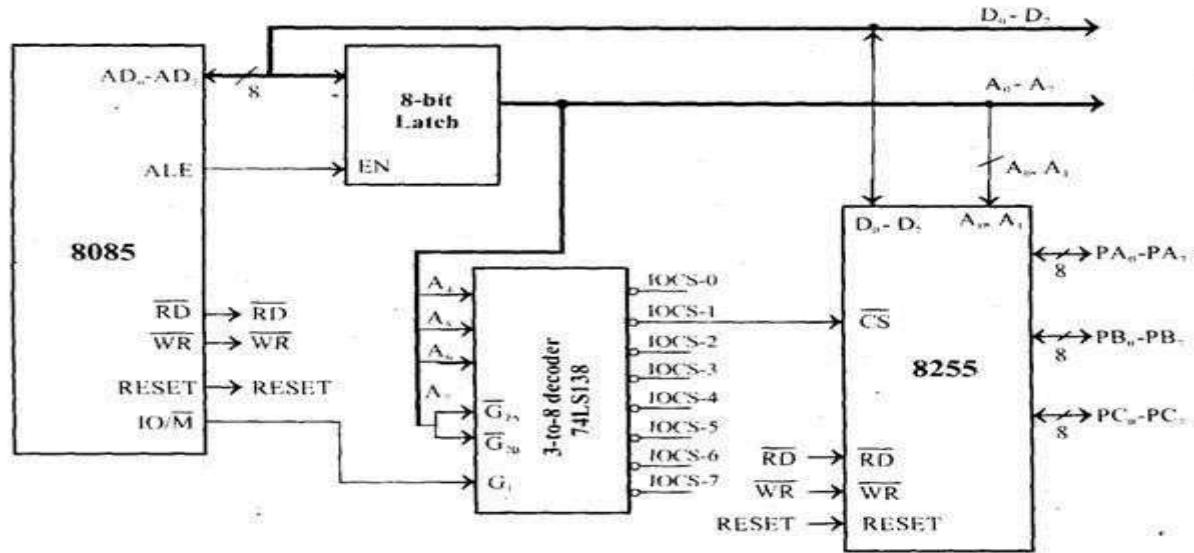

Fig 3.7. Interfacing 8255 with 8085 processor
- The address lines A4, A5 and A6 are decoded to generate eight chip select signals (IOCS-0 to IOCS-7) and in this, the chip select IOCS- 1 is used to select 8255 as shown in Figure 3.7.